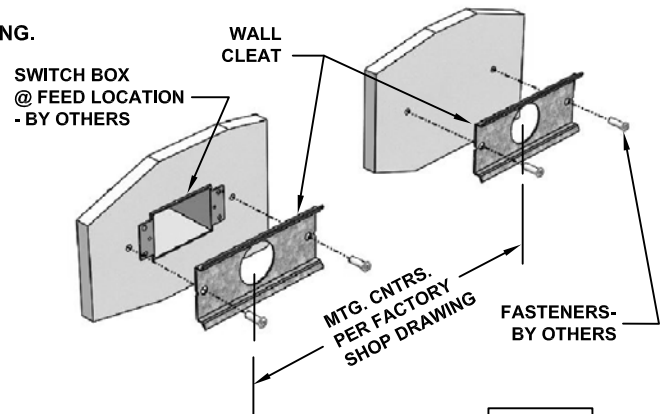

FIG. 1
USING WALL CLEAT AS A TEMPLATE, CENTER OVER HORIZONTALLY MOUNTED SWITCH BOX AND MARK (2) MOUNTING HOLES. USE LEVEL TO PLUMB WALL CLEAT. (FIG. 1) DRILL HOLES APPROPRIATE FOR MOUNTING SURFACE AND FASTENERS TO BE USED. SECURELY ATTACH WALL CLEAT TO WALL.